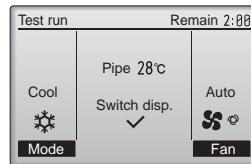

Fig. 7-5
- ① Press the **F1** button to go through the operation modes in the order of "Cool" and "Heat". (Fig. 7-5)